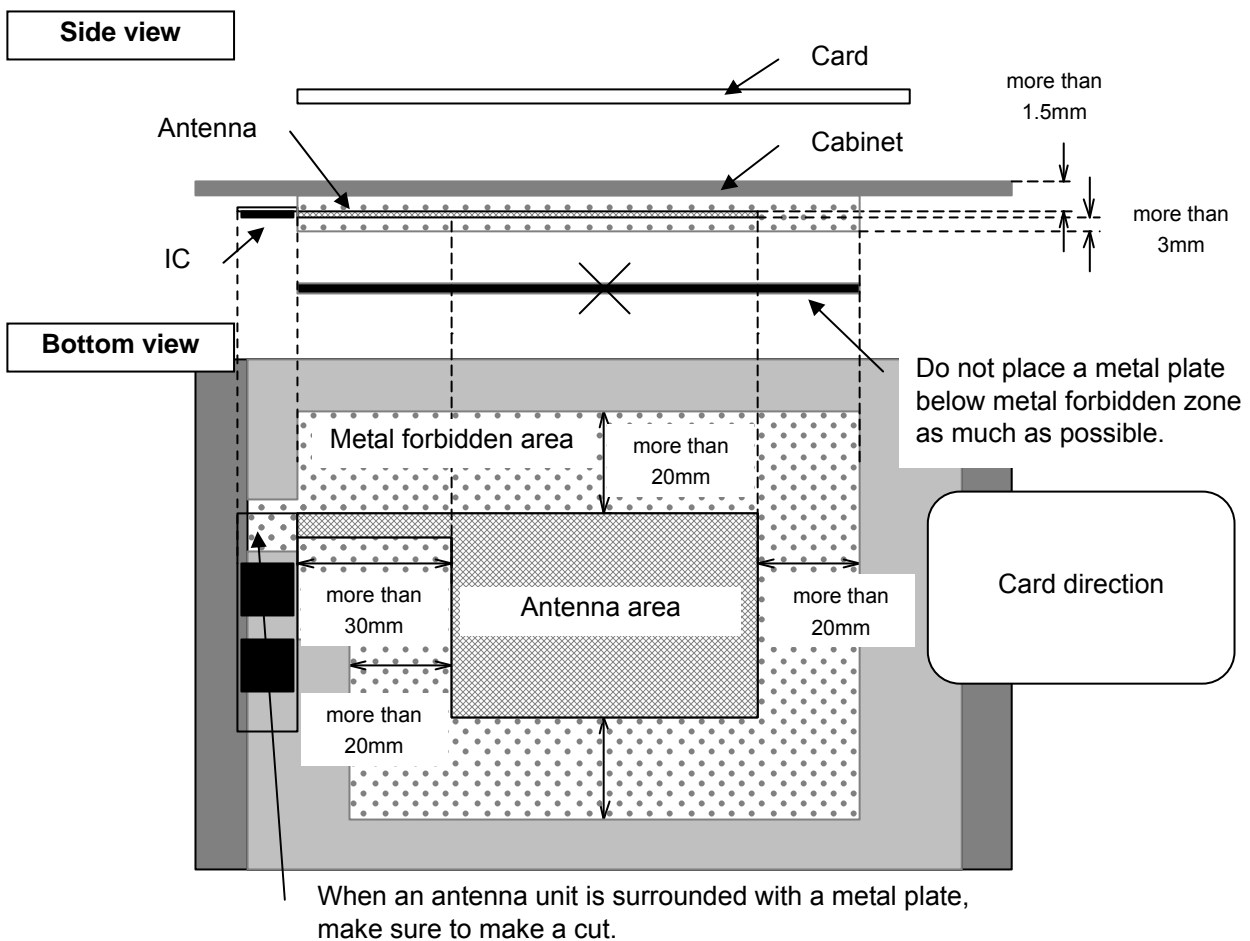

Figure A-1: Installation requirements
2. Stick the antenna to a plane (extreme modification of the antenna is subject to penalties according to applicable laws or regulations). Do not place any metal in the forbidden area (dot-meshed area in Figure A-1) secured around the antenna. Particularly, communication performance undoubtedly deteriorates if a plate-like metal is put near the antenna.